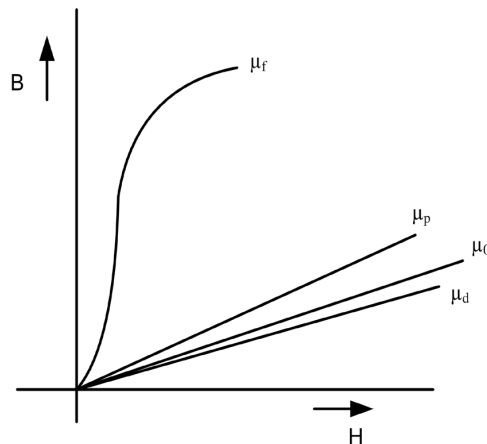

Fig. 4.8: B-H curve of different types of magnetic material
Fig. 4.8 shows the permeability of different types of magnetic materials. The subscript shows whether the material is ferromagnetic, paramagnetic, free space or diamagnetic.
The magnetic field generated by a single conducting wire is not very strong. The field intensity can be increased by giving shape to a conductor as a tightly wound coil having N turns. The arrangement effectively increases the current linked by the flux lines N fold. The product N.I is called the magnetomotive force F and its unit is ampere-turns (AT). Fig. 4.8 shows a ferromagnetic material having circular cross section is excited by a coil having N turns and carrying a current I. The flux established in the magnetic core is circular in shape with major portion of the flux lines passing through the core due to its high permeability. The small portion of the flux line that passes through air is known as leakage flux.
is called the self-inductance of the coil and its unit is H(henrys). For a ferromagnetic material with B-H curve as shown in Fig. 4.8, the curve being nonlinear, the self-inductance corresponds to an incremental value corresponding to incremental change around an operating point on the curve.